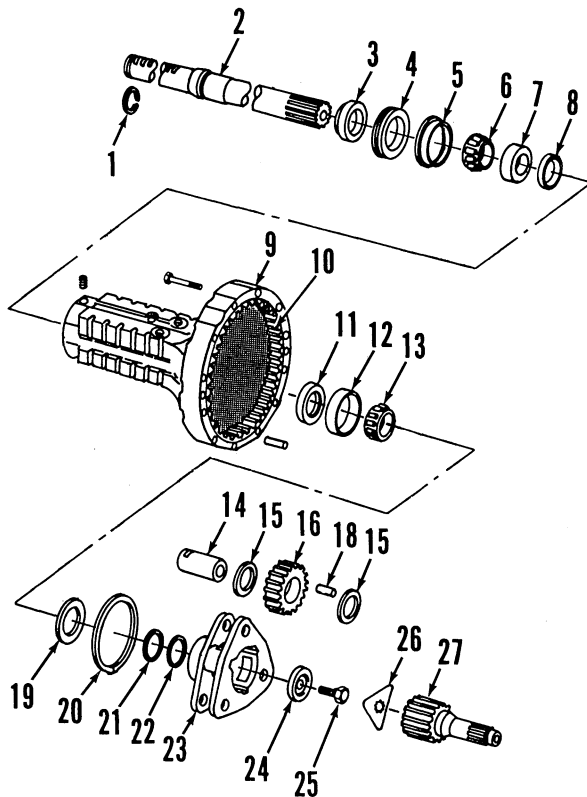

Fig. 190A—Exploded view of final drive used on Models 4050 and 4250. Refer to Fig. 190 for legend except for retainer (8).
175. PLANET PINION CARRIER INSTALLATION. Install thrust washer (19—Fig. 190A) and planetary carrier (23) assembly into housing. Be sure carrier retainer (24) is correctly positioned, then tighten special retaining screw (25) to 170 ft.-lbs. (230 N·m). Rotate axle housing a minimum of six revolutions in each direction to ensure bearings are properly seated, then retorque cap screw to 170 ft.-lbs. (230 N·m). Install lockplate (26) so ears are positioned in lock lugs in carrier. (It may be necessary to tighten or loosen cap screw slightly). Then, tighten cap screw slightly to wedge plate against lock lugs. Fill outer bearing compartment with TY6341 grease or equivalent high temperature-extreme pressure grease, then reinstall final drive assembly.